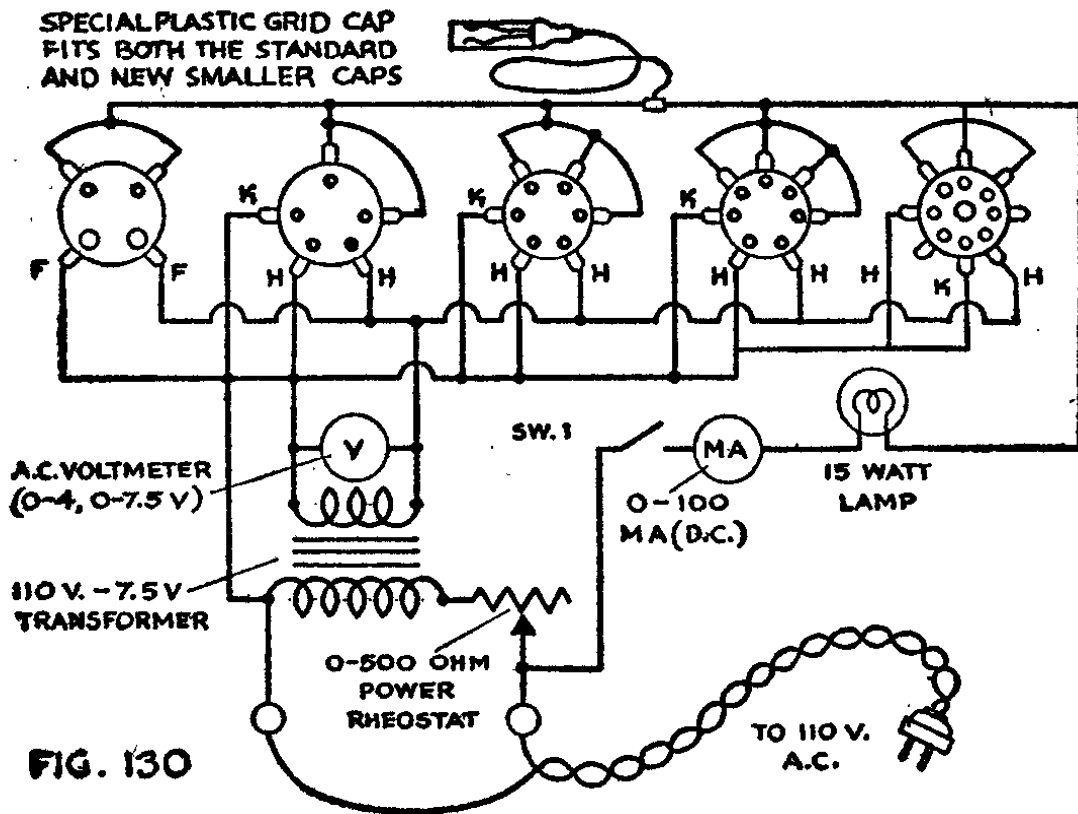

FIG. 130
*A Simple Tube Checker:* To differentiate accurately between good tubes and worn tubes, some form of tube-checking circuit must be employed. Although many elaborate tube checkers are sold for use by servicemen, the amateur experimenter can make an inexpensive yet highly efficient unit by following the simple wiring diagram shown in Fig. 130.